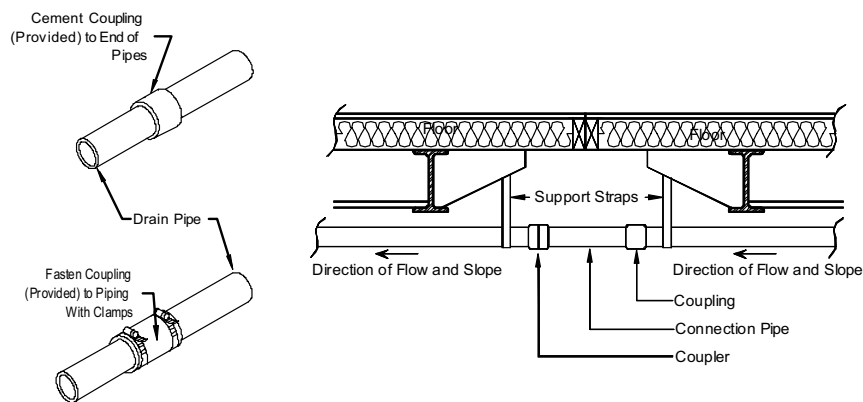
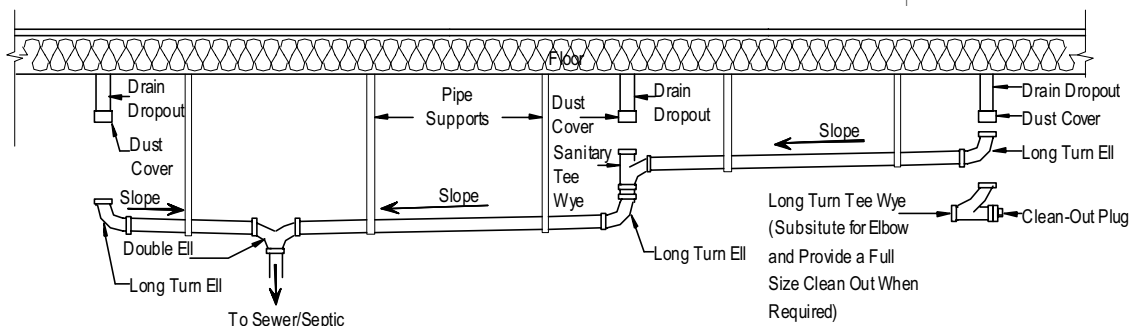
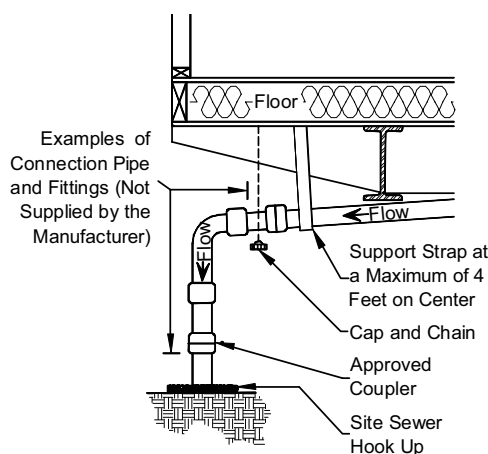
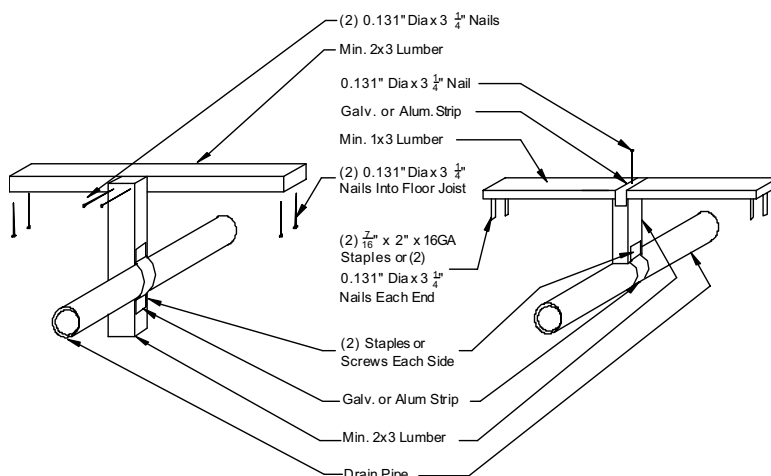

Figure 63. *Drain crossover connection*
Figure 64.*DWV system*
Figure 65. DWV connection to sewer/septic
Figure 66. DWV pipe support options
2. **Assemble pipes.** Using the drain schematic drawing provided with the home, begin assembling the DWV system starting at the location farthest from the sewer/septic connection and working towards the outlet, fastening the pipe with cement or adjustable screw-clamp connectors, if provided (**Figure 63**). As the system is assembled, support the piping with temporary blocking. Unless otherwise noted on the schematic diagram, provide a minimum 1/4 inch per foot slope towards the sewer/septic using a plumber's level. Where a slope of 1/4 inch per foot cannot be maintained, use a minimum slope of 1/8 inch per foot and install of a full-size clean-out at the uppermost point of the run (**Figure 64**).
4. **Connect to outlet.** Connect the main drain line to the site sewer/septic hook-up, using an approved elastomer coupling (**Figure 65**).
5. **Install supports.** Install permanent drain line supports at a distance of four feet o.c. or less (see **Figure 63**, **Figure 65**, and **Figure 66**).